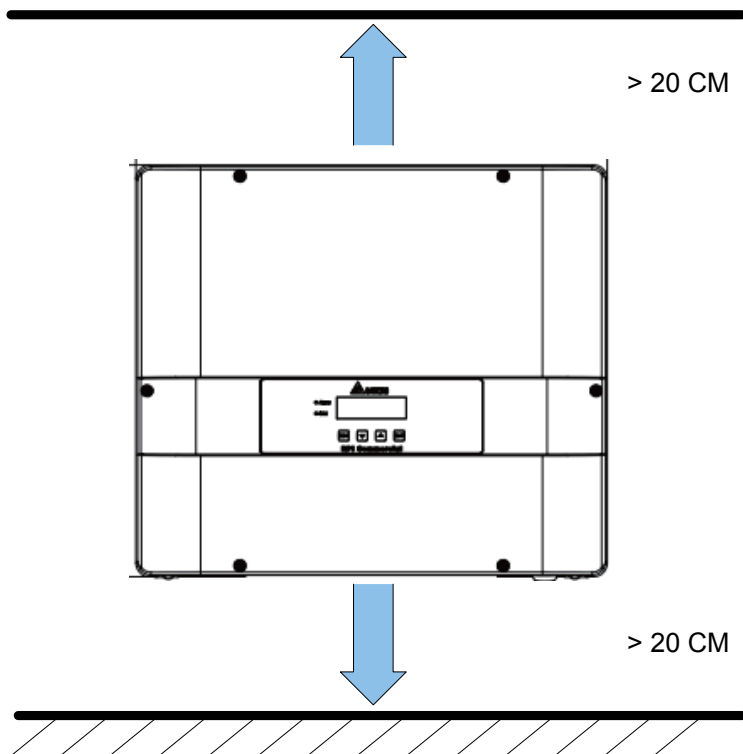

Figure 3-6 Proper installation gap
- Please leave an appropriate gap between floor, ceiling, and unit when installing inverter as shown in **Figure 3-6**. (There is no mandatory requirement of the gap between unit and unit.)